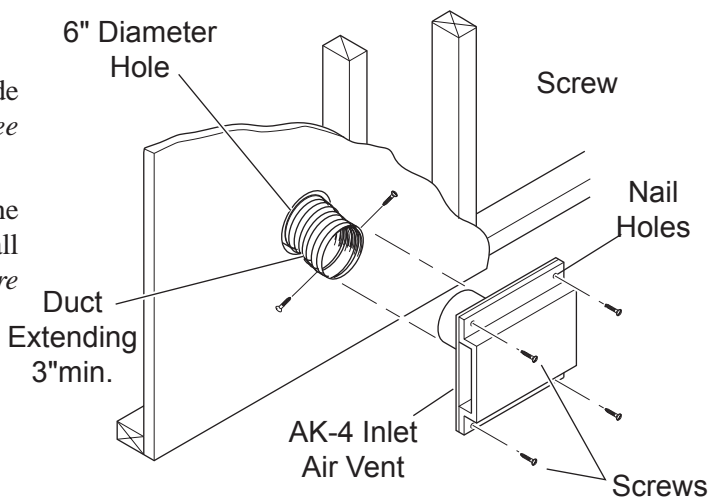

Figure 46 - Combustion Air Assembly for Model No. AK-4
5. Cut a 6-inch diameter opening for model AK-4 in the outside wall covering where the outside vent is to be located. *See Figure 46*